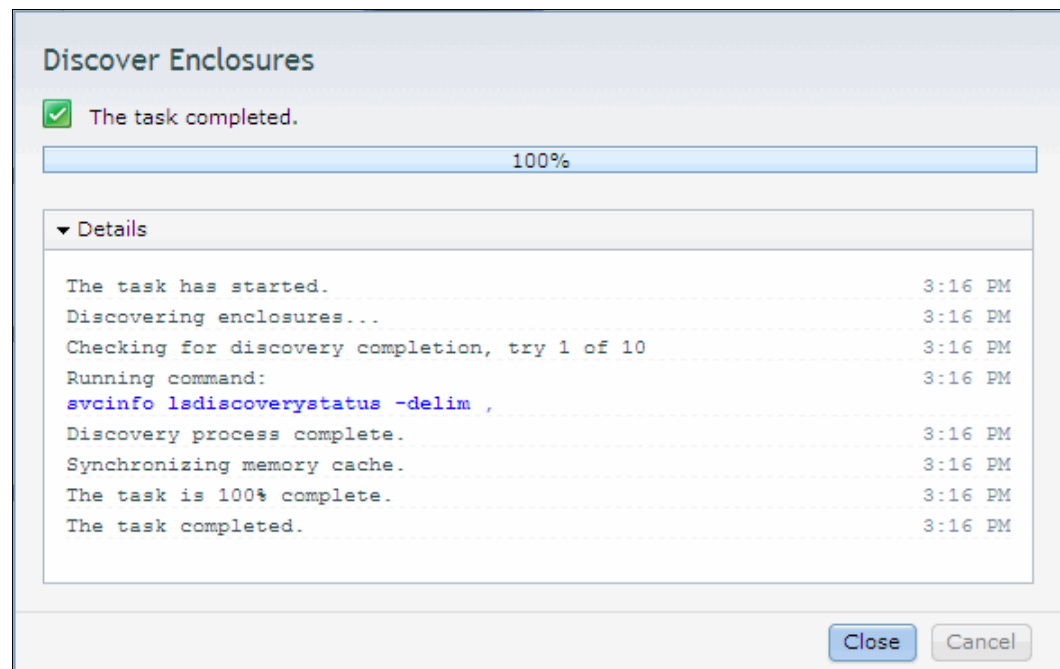

Figure 2-44 New enclosure discovery task
3. A task runs and completes to discover the new hardware, as shown in Figure 2-44. Click **Close** to continue.